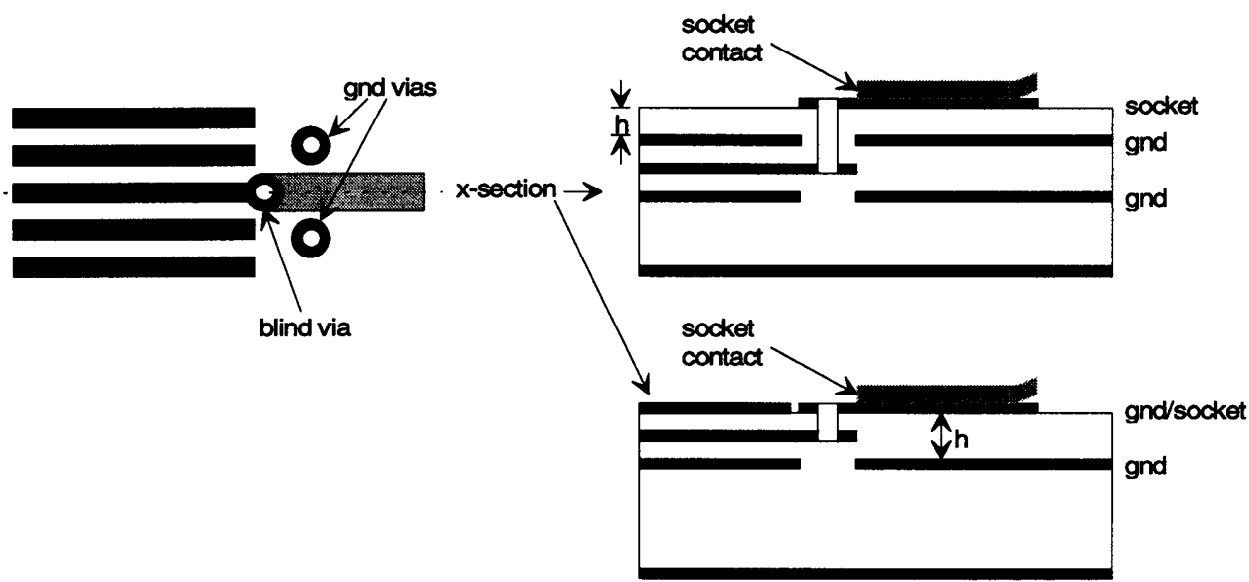

Figure 5 - Same-side stripline connection
4. Stripline on opposite side of socket: place .010" thru-hole via as close as possible to socket, use the minimum pad possible. A via stub greater than 12 mils is not recommended because of its parasitics. Ideally a blind via would be used in this case as shown in figure 5.